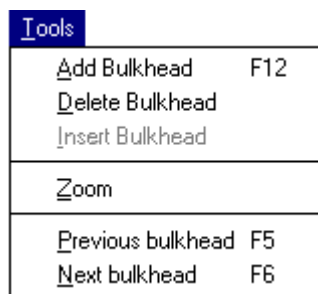
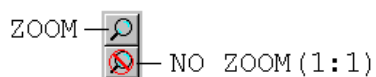

Figure 24 : TOOLS MENU
Figure 28 : ZOOM TOOLBAR
A first click on the *Zoom* button (Figure 28) or on *Zoom* on the *Tools* menu (Figure 24) changes the cursor in  and allows you to zoom in the bulkhead view by simple click on it.
A second click on the *Zoom* button (Figure 28) or on *Zoom* on the *Tools* menu (Figure 24) changes back the cursor in  and allows you to work on your zoomed bulkhead view.
- click on the *No Zoom (1:1)* button (Figure 28) to bring back the view to the initial size.